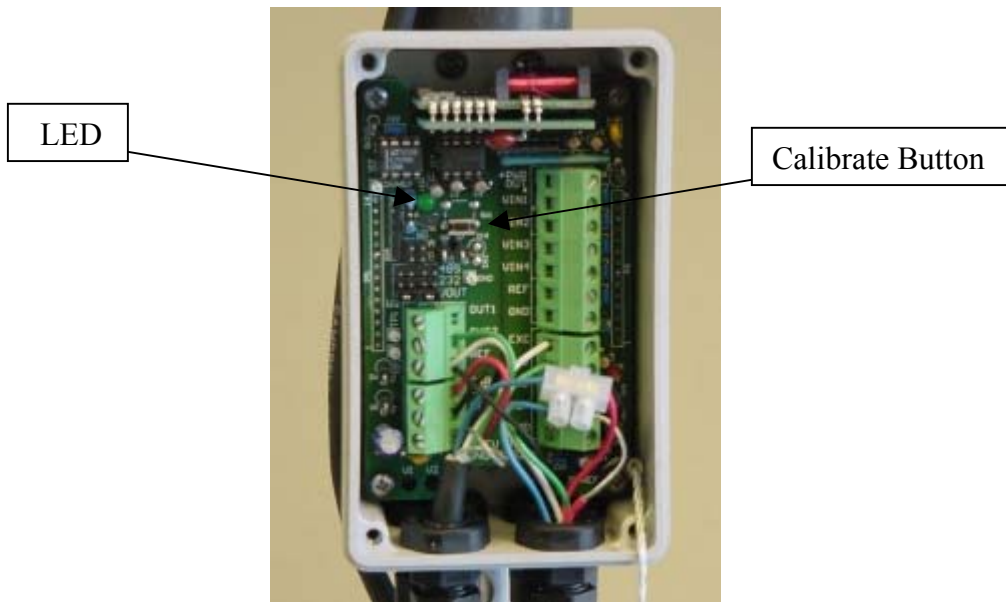

Figure 5. Compass Enclosure and Circuit
- press and hold the calibrate button for 5 seconds (see Figure 5 next page for picture showing button and LED). The indicator light will begin to blink. See the 32500 Compass Manual wiring diagram for location of button and light.